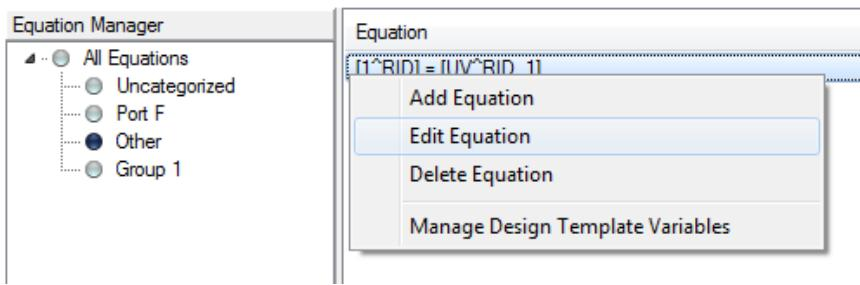

Figure 6.34 Right-Click the RID Equation and Select Edit Equation
Step 13. Close the Design Template Variables window. Within the **Equation** window, right-click the RID equation and select **Edit Equation** (see *Figure 6.34*).